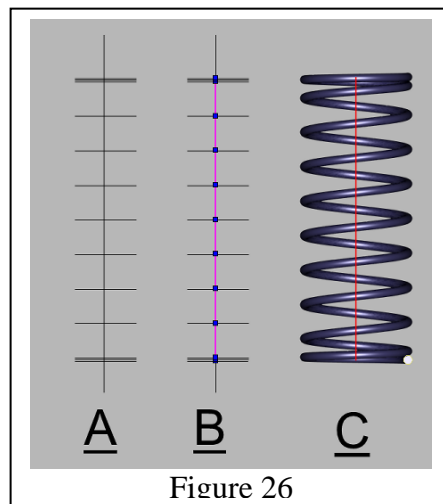

Figure 26
Draw another parallel above this one, using the same *Offset*. Then draw a new parallel *beneath* the lowermost horizontal line with the same *Offset* (remember that a negative sign must be entered before the numerical value to place the new parallel beneath the target). Draw one more parallel beneath the latest one, again with the same (negative) *Offset*. This set of lines (“A” in Figure 26) will serve as the framework for constructing the Sweep path in accordance with the next step...
3. Draw a 2D Spline by Control Points (Spline by Fit Points won’t do the job), carefully using the Intersection snap or the “I” SEKE to place the nodes at the intersections of the vertical line with each horizontal line (in this case, thirteen nodes altogether). Examine the Spline with the Edit tool to verify that each node is accurately placed on an intersection. (“B” in Figure 26.)
5. To create the spring itself, draw a 0.125 inch diameter circle for the profile. Place the profile beside the path, 0.75 inch away. To be sure it will Sweep without triggering the “selfintersecting” warning, the profile must be rotated out of its current plane—but not too far. If the profile is located to the right of the path, rotate it 45 degrees about the X axis; if it’s located to the left of the path, rotate it *negative* 45 degrees about the X axis. Sweep the profile along the path, with “Use compound profile” enabled. Set *Twist Angle* to 3600 degrees. Switch to a side view and adjust the tilt of the profile to make it perpendicular to the Sweep itself. “C in Figure 26 is the finished spring.